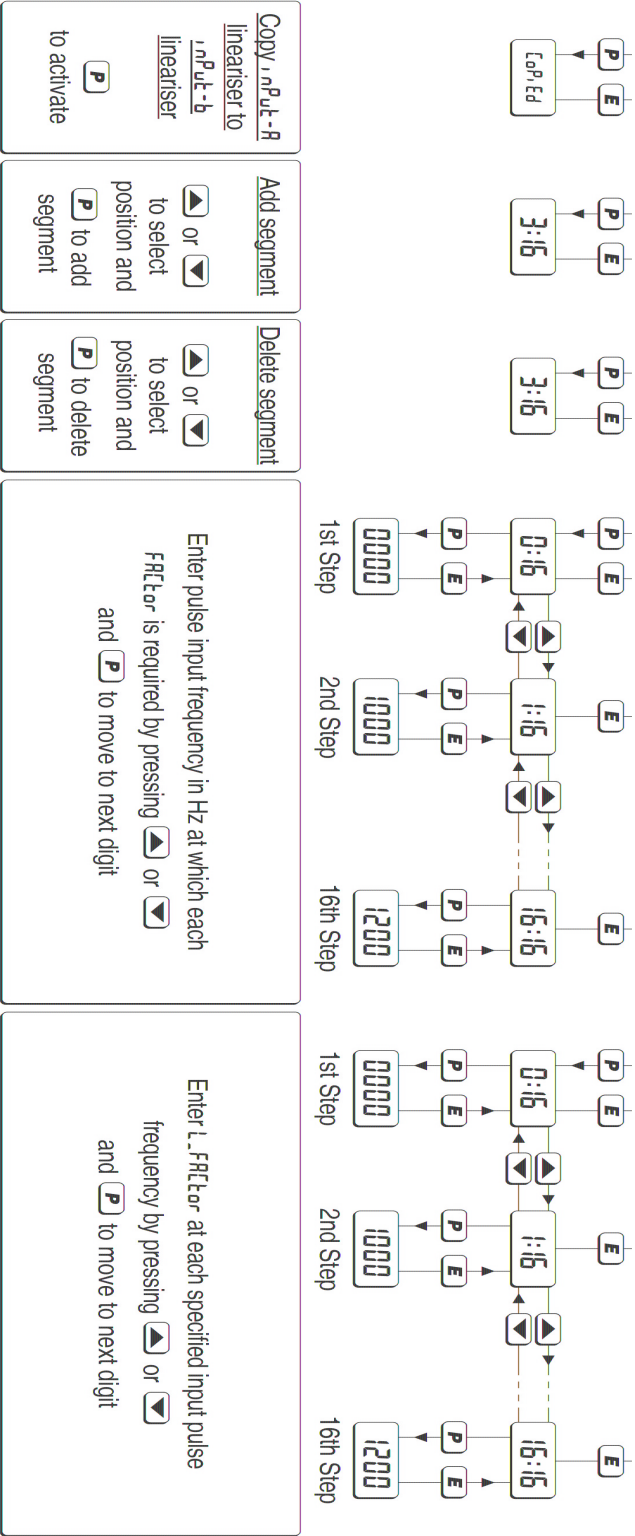

Fig 12 Lineariser configuration menu
The two linearisers are enabled by selecting Lin in FunCtion – see section 6.4. The configuration menu shown in Fig 10 remains basically unchanged, except that up to 16 values of the flowmeter K-factor, can be entered as L-FRACtor, together with PULSE Fr the corresponding input frequency at which each starts in the FRACtor A and FRACtor -b functions. Fig 12 shows how the FRACtor -A is extended.
**PULSE Fr** is a sub-menu in the **FRCEor-R** function for entering the pulse input frequency at which each of the lineariser segments starts, see Fig 12.
**L\_FRCEor** is a sub-menu in the **FRCEor-R** function for entering the flowmeter K-factor for each of the lineariser segments, see Fig 12.